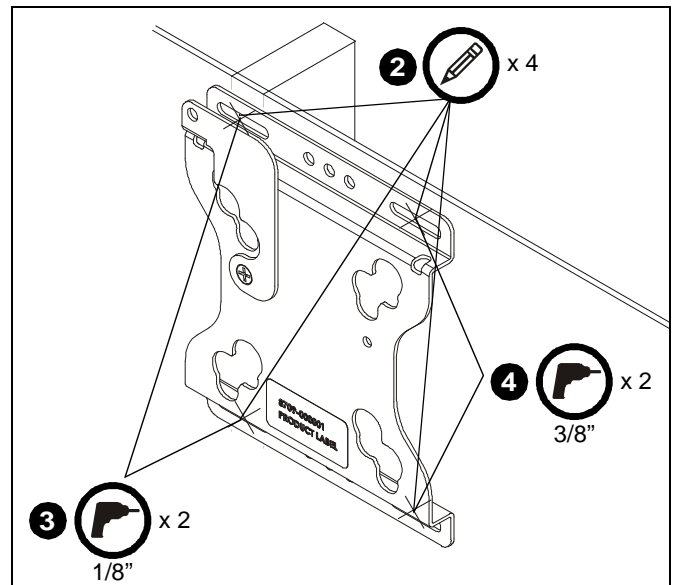

Figure 2
2. Level FSR assembly (A) at desired height and, using it as a template, mark the location of the four anchor holes (one in each corner slot). Two holes must be centered on a single wood stud.
4. Drill 3/8" anchor holes in the other two marked locations. Ensure holes are straight and completely through drywall. (See Figure 2)